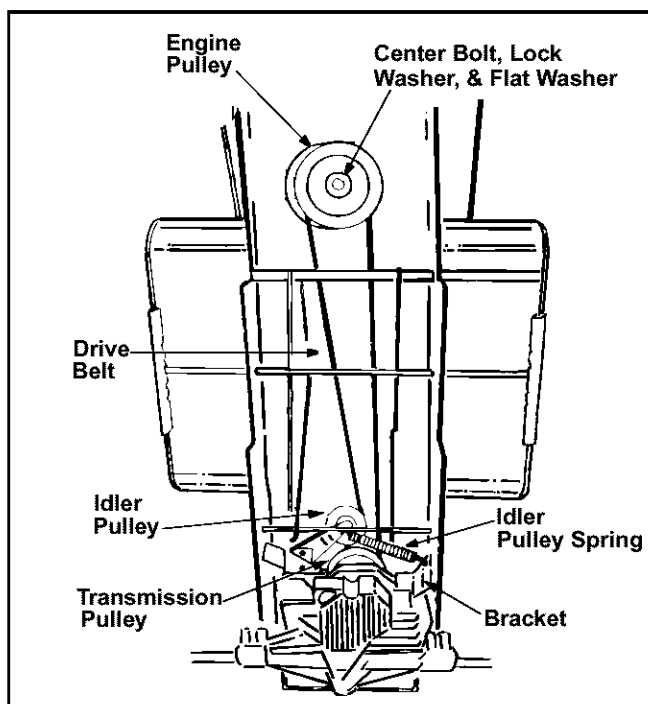

Figure 25
- Disconnect the idler pulley spring which is attached to a bracket on the frame, inside the left rear wheel. Use a spring puller or other suitable tool. See Figure 25.
- Remove the center bolt, lock washer and flat washer, and let the engine pulley drop down so the belt is past the belt guards. See Figure 25.